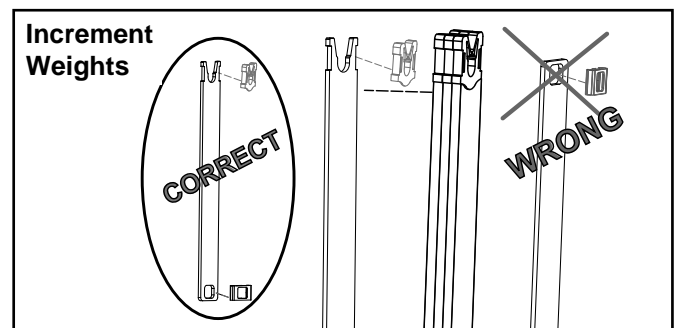

Figure 8
- M. Reinstall the six increment weights that were removed in step 6B. See Figure 8.